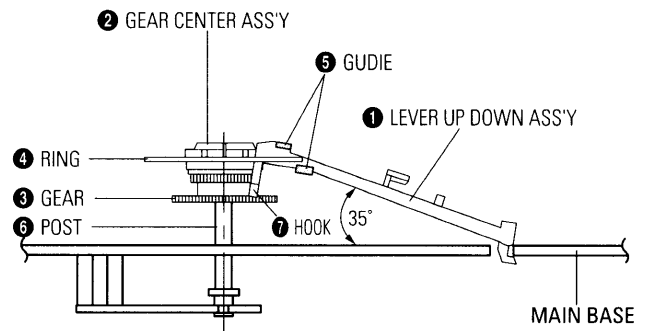

Fig. 4-26 Assembly of Lever Up Down Ass'y, Gear Center Ass'y
- 1) Insert the Lever Up Down Ass'y ① in the 2 rectangular holes on Main Base.
- 2) Lift the Lever Up Down Ass'y ① about 35 degree. (Refer to Fig. 4-26)
- 3) Insert Ring ④ of the Gear Center Ass'y ② in the Guide ⑤ of the Lever Up Down Ass'y ①.
- 4) Insert the Gear Center Ass'y ② in the post ⑥ on Main Base.
- 5) Push down the Lever Up Down Ass'y ① for locking of the Hook ⑦.